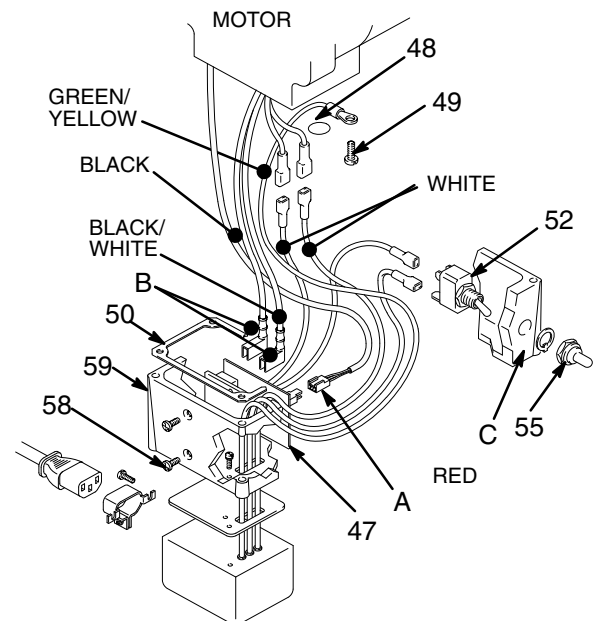

Fig. 27
3. Remove the screws (56) and lower the junction box (59). Disconnect the motor wires and the pressure control wire (A) from the motor start board. Refer to Fig. 27 on page 27.
4. Remove the drive housing cover (13).
5. Remove the pressure control (69) while guiding the harness (A) through the motor.
6. Turn the displacement pump rod (107) so the pin hole aligns with the bottom drive housing screw (19). See the DETAIL below. Remove the three drive housing screws and lockwashers (19,6).
8. Tap the lower rear of the drive housing (11) with a plastic mallet to loosen the motor. Pull the drive housing straight off the motor. Do not allow the gear (16) to fall. Read the CAUTION on page 28.
9. Remove the two screws (46) and lift the motor off the base (66).
12. Connect the wires in the junction box. Refer to Fig. 27 on page 27. Install the junction box.
13. Reconnect the piston rod (107) to the drive housing; see page 23, Installing the Pump, Step 2 and the Warning that follows the step.
2. Disconnect the motor wires (B) and the 3-wire connector (A) from the motor start board (47). Disconnect the wire from the ON/OFF switch. Observe where connections are made. See Fig. 27.
3. Remove the screws (58) and motor start board (47). Transfer the white thermal paste from the old board to the new board. See Fig. 27.
4. Install the new motor start board. Reconnect all wires. Mount the junction box. See Fig. 27.
2. Remove the nut and rubber boot (55).
3. Disconnect the wires from the ON/OFF switch (52) and replace the switch. See Fig. 27.
4. Powder the inside of the rubber boot (55) with talcum, then shake the excess out of the boot. Install the nut and rubber boot and tighten.